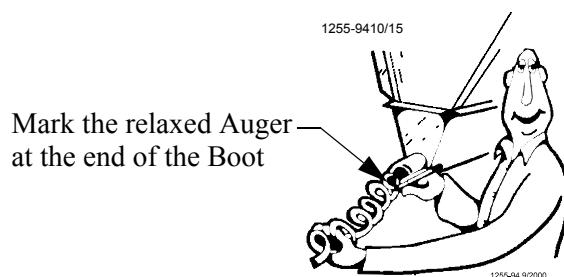

Figure 42. Marking the
7. Pull the auger at the boot end until it begins stretching then let it relax. In the relaxed position, mark the auger at the end of the boot. See **Figure 42**.